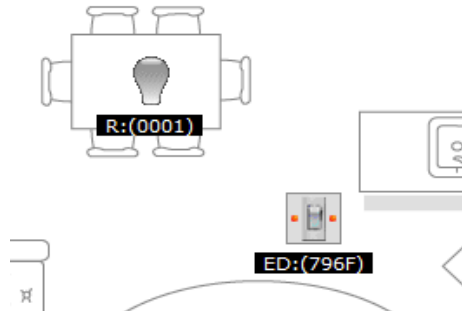

Figure 14. The On/Off Switch Sending “Off” to the On/Off Light
3. Only for the 1321x-EVK and 13192-EVK: Press and hold SW2 on the On/Off Switch board for about 2 seconds. This sends the Off command to the light. Notice how LED2 on the On/Off Light board turns off and the On/Off Light icon on the ZeD GUI changes the light bulb state to off as shown in Figure 14. The small LEDs on the On/Off Switch icon also turn red, to indicate that the Combined Interface also received the Off command from the On/Off Switch and updated the icon.